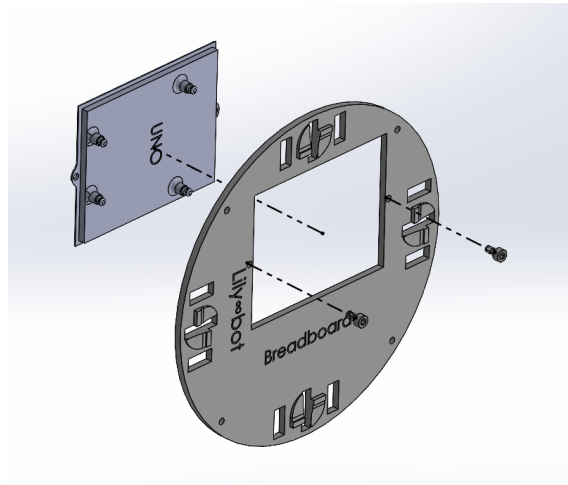

Figure 11: Screwing the controller mount into the top chassis
11. Retrieve the top chassis for the robot as shown in Figure 11 and attach the corresponding controller module to it using 2 screws.